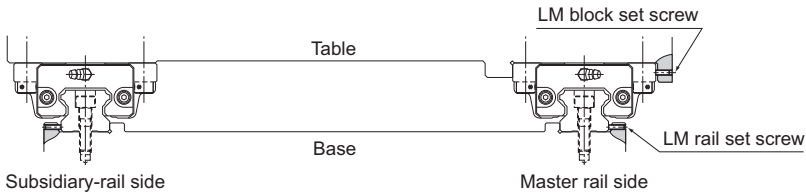

Fig.1 When an Impact Load is Applied to the Machine
- (1) Gently place the table on the LM blocks and temporarily fasten the mounting bolts.
- (2) Press the master side LM blocks to the side reference surface of the table using set screws and position the table. (See Fig.1 on A1-322.)
- (3) Fully fasten the mounting bolts on the master side and the subsidiary side to complete the installation.